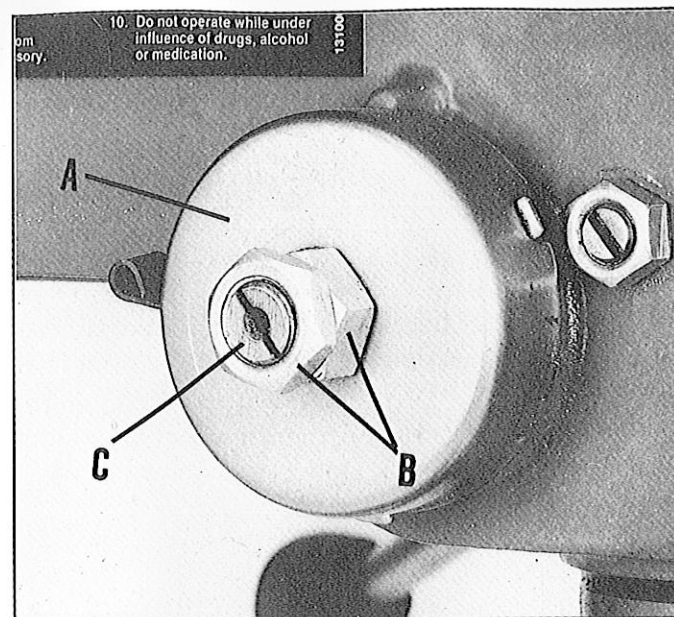

Fig 32
For the purpose of automatically returning the spindle upward after a hole has been drilled, a spindle return spring is provided in the spring housing (A) Fig. 32. This spring has been properly adjusted at the factory and should not be disturbed unless absolutely necessary. To adjust the return spring, proceed as follows:
2. Loosen the two nuts (B) approximately 1/4". Do not remove nuts (B) from shaft (C) Fig. 32.